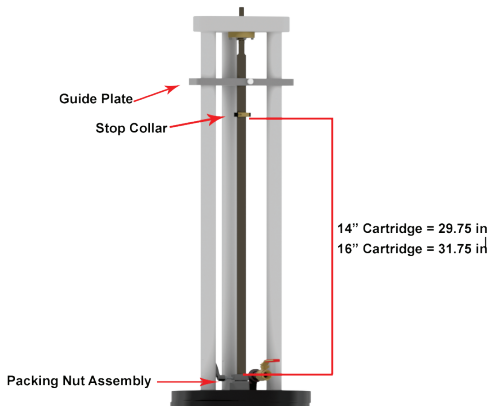

Figure 62
5.0.22) Set the stop collar the following distances from the top of the packing nut: (see Figure 62).